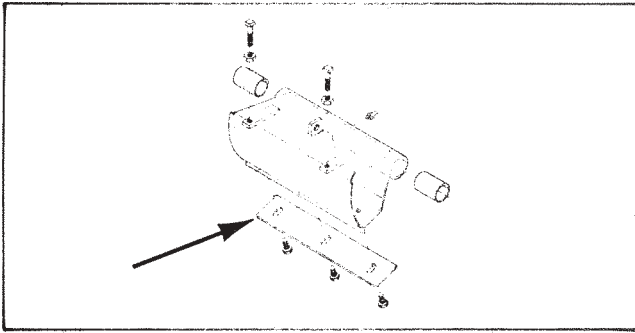

Figure 20. Gate Wear Plate
Hopper Gate Wear Plate Adjustment (Fig. 20/20a)
2. With hopper removed from the spreader or the reach rod disconnected, each gate adjustment screw should be set so as to maintain $\frac{1}{16}$ " clearance between the gate wear plate and spread roll. (Ref. 2, Fig. 20/20A)